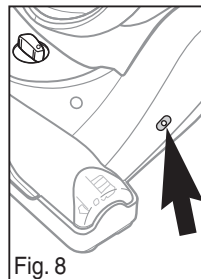

Fig. 8
- 1) Press reset button on the side of the brush roll cover to reset motor (Fig. 8).